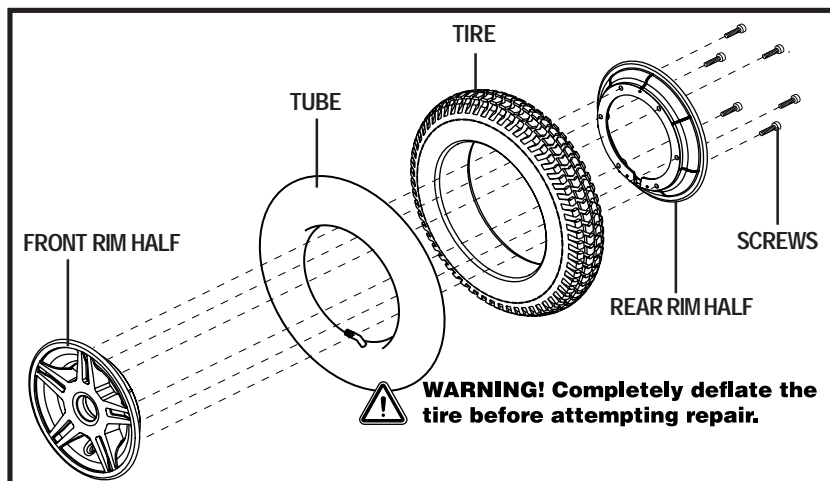

Figure 21. Jazzy 600 Drive Wheel Disassembled
6. Remove the screws from the rim assembly and separate the front and rear rim. See figure 21.